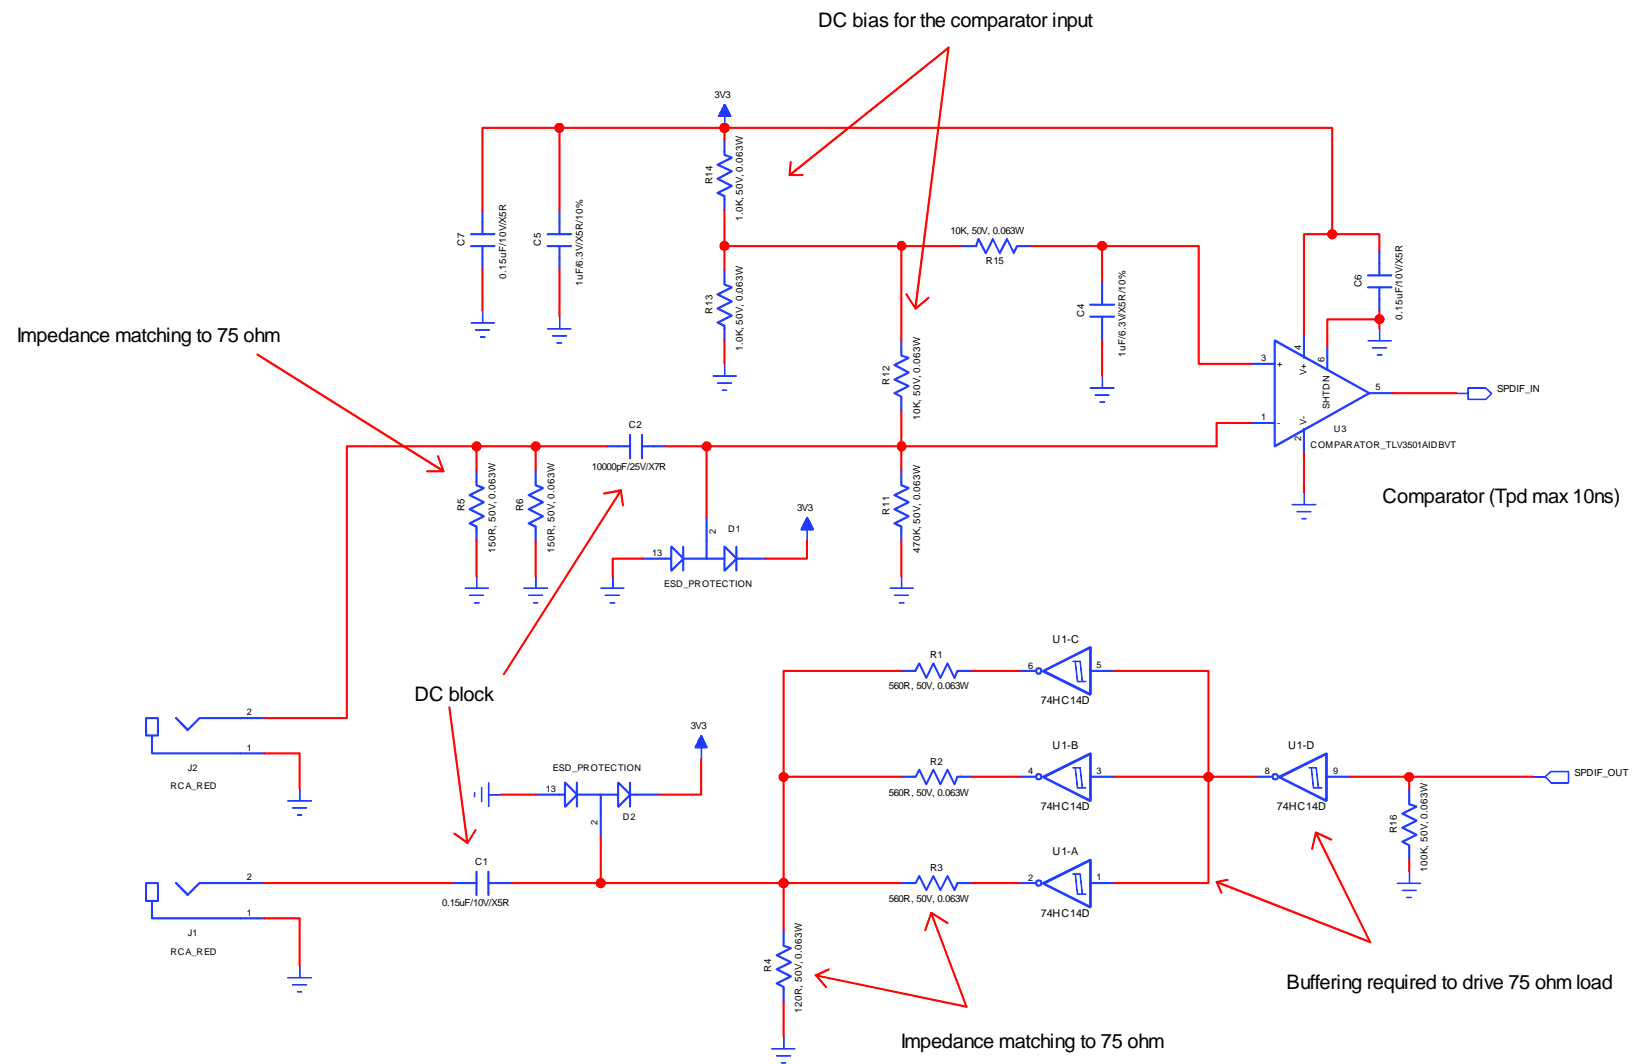

Figure 24: Example circuit for SPDIF interface (co-axial)
- 75Ω coaxial cable with an RCA connector, see Figure 24